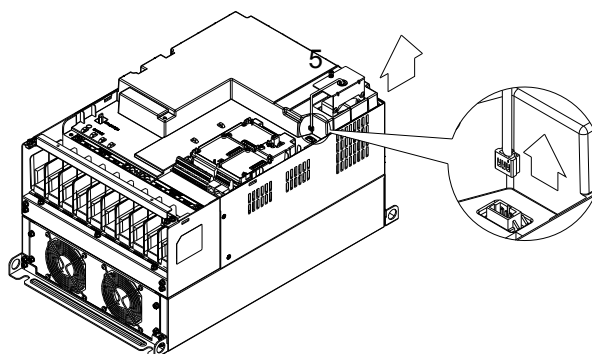

Figure 3
3. Loosen screw 5 (figure 3) and disconnect fan power and pull out the fan. (As shown in the enlarged picture 3) Screw 5 『Torque: 10~12 kg-cm / [8.7~10.4 lb-in.] / [1.0~1.2 Nm]』